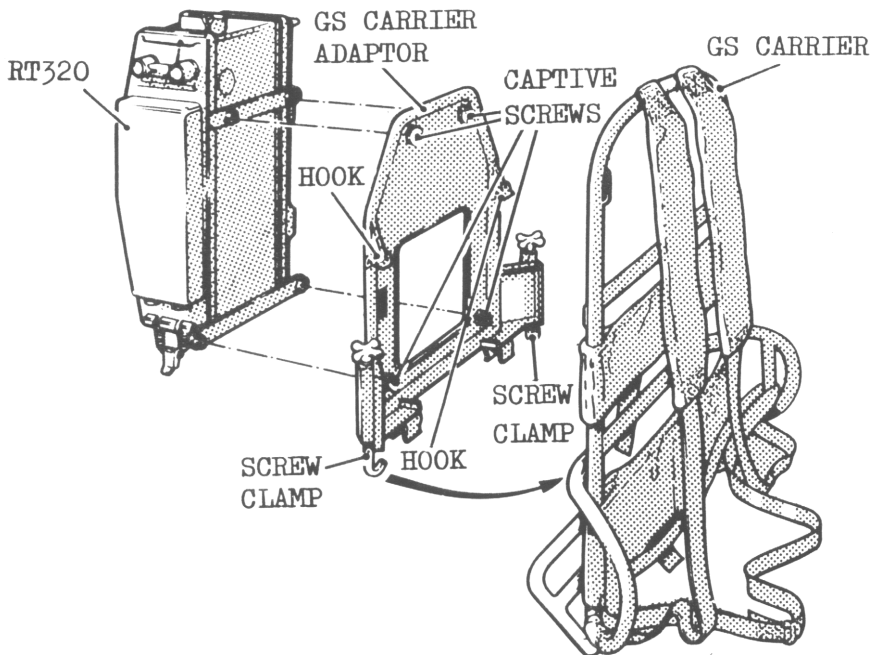
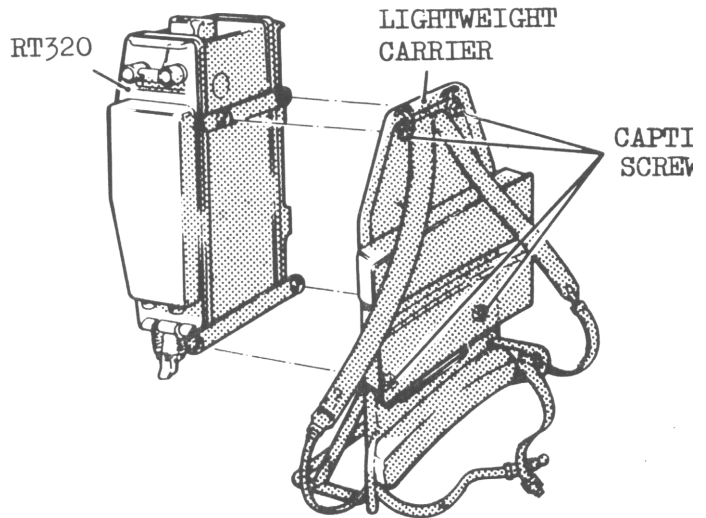

Fig.3a Fitting RT320 to Carrier (GS)
Fig.3b Fitting RT320 to Carrier (Lightwei
1.7 The transmitter/receiver (RT320) is contained in a sealed light alloy case. All controls are mounted on the front panel and external connectors on the top and rear panel. Projections around the front and rear panels protect the controls and connectors. The RT320 is mounted on either a GS carrier with adaptor (see Fig.3a) or a lightweight carrier (see Fig.3b), and the battery is clipped to the bottom of the case of the transmitter/receiver. When a SURF 12 is used it is screwed directly to the case of the RT320.
2.2 Fitting RT320 to carrier (Fig.3a & b). Proceed as follows:-